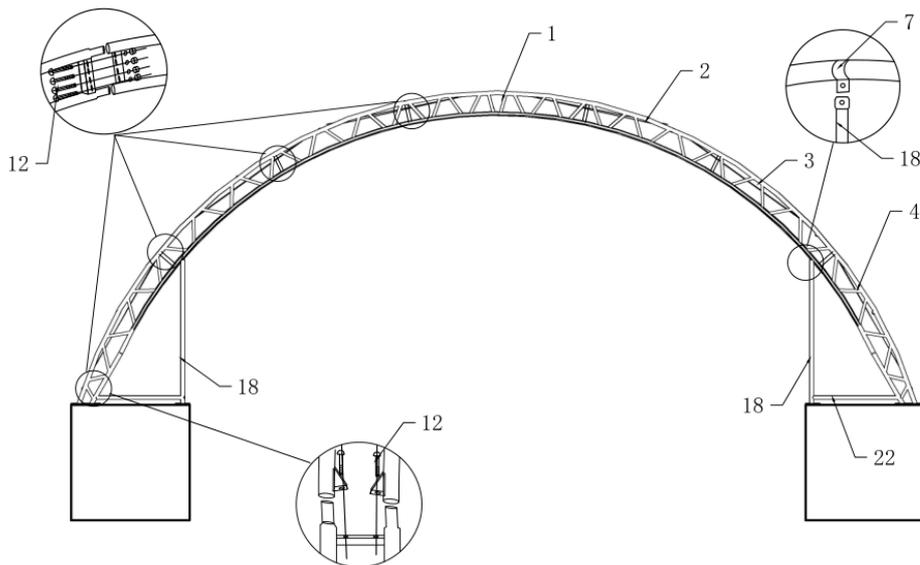

Figure 4
2. As Figure 4 shown to connect standing leg(NO.18)with clip(NO.7) and Bolt 8*70mm(NO.20).